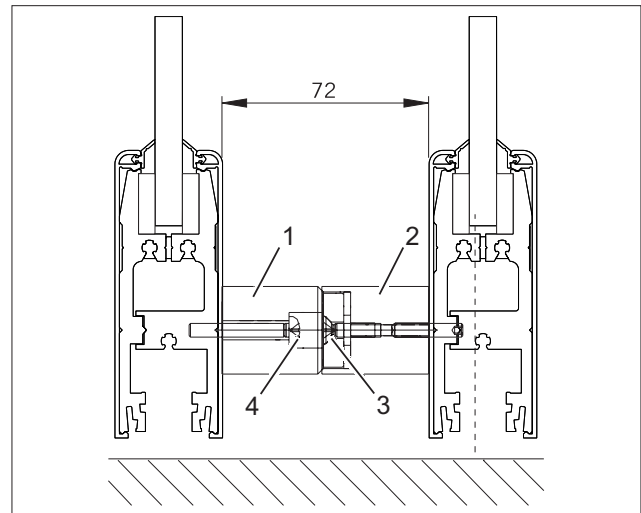

Fig. 52 Installing the magnetic slide bolt
2. Set the magnet's (Fig. 52/1) bond strength. To do so, turn the countersunk screw clockwise (Fig. 52/4) by approx. ¼ of a turn. Do not turn the countersunk screw too often; otherwise, the thread-locking fluid will dissolve and must be replaced.
3. Align and fasten the mating disk (Fig. 52/2) to the center of the magnet. If necessary, slightly loosen the flat-head screw (Fig. 52/3) to re-align and re-tighten the mating disk.